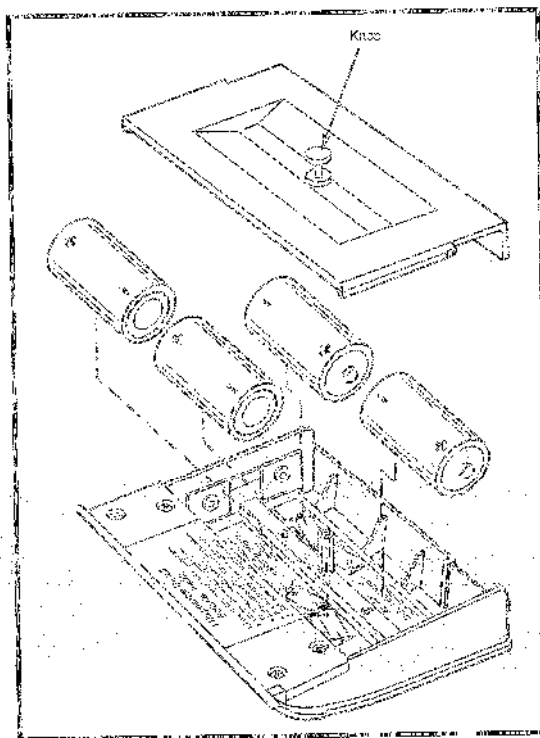

Figure 4
2. To open the battery pack, turn the knob on the back of the battery pack (refer to Figure 4) counterclockwise. Remove the battery pack cover.
4. Insert four D-cell alkaline batteries as indicated by the diagrams in the battery pack base, or refer to Figure 4. Make sure that the batteries fully contact the terminals in the battery pack.